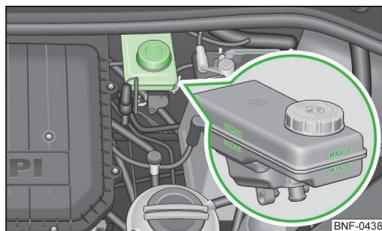

Fig. 102
The brake fluid reservoir is located in the engine compartment » Fig. 102 on page 113.
- Do not continue your journey if the fluid level has dropped below the "MIN" marking » Fig. 102 on page 113,  do not continue driving - there is a risk of an accident! Seek help from a specialist garage.
» Check the level of brake fluid in the reservoir » Fig. 102.